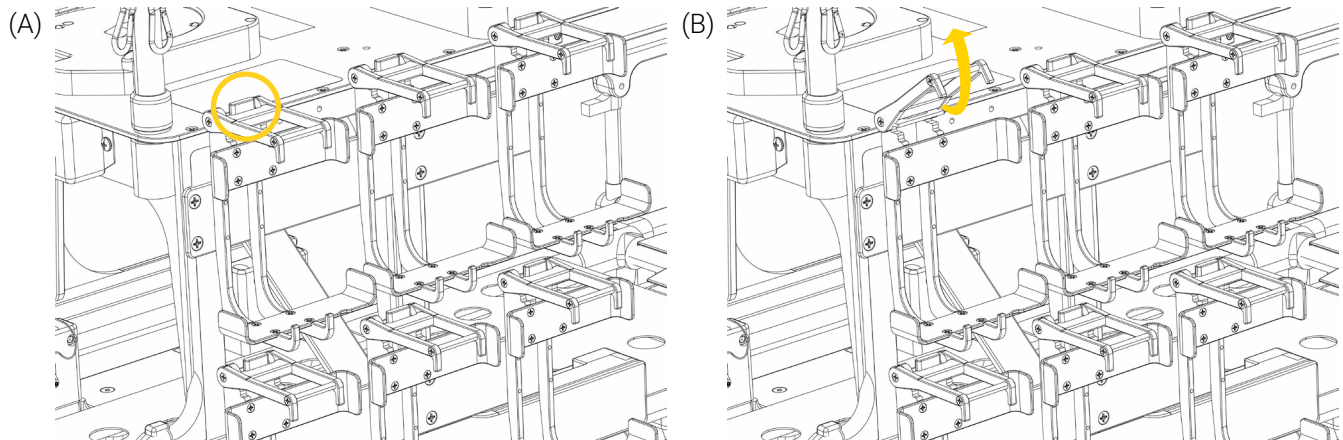

Figure 13: Opening the infusion pump bracket
1. Pull the quick release mechanism on the pump holder forward (Figure 13 A), then lift the top part of the holder to open it (Figure 13 B).